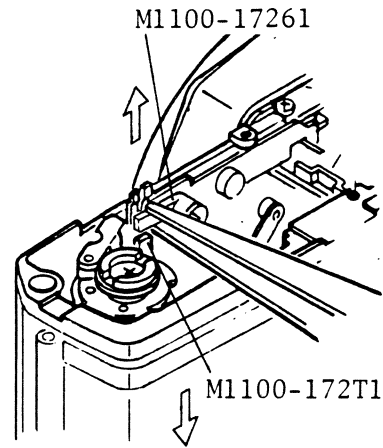

Fig.4
4. Lift up the M1100-1721T1 shutter release bar and pull down the M1100-17261 release lever so that you can install the front housing to the body completely. (Fig. 4)